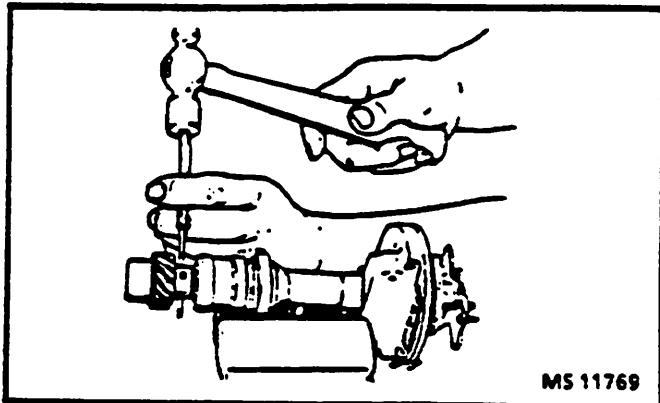

Figure 11 - Removing the Roll Pin
- Any time the distributor is disassembled, the retainer (5) must be replaced. Do not attempt to reuse the old retainer.
- 1. Screws (1) and washers holding the cap to the housing.
- 2. Cap (2) from the housing.
- 3. Rotor (3) from the shaft by lifting or prying straight up.
- 4. Roll pin (15) from the shaft (4).
- B. Drive out the roll pin with a small punch (Figure 11).
- 5. Driven gear (14), washer or spring (13), and spring retainer or tang washer (12).
- 6. Shaft (4) with the pole piece (8) and plate from the housing (11).
- 7. Retainer (5) from the housing (4) as follows: